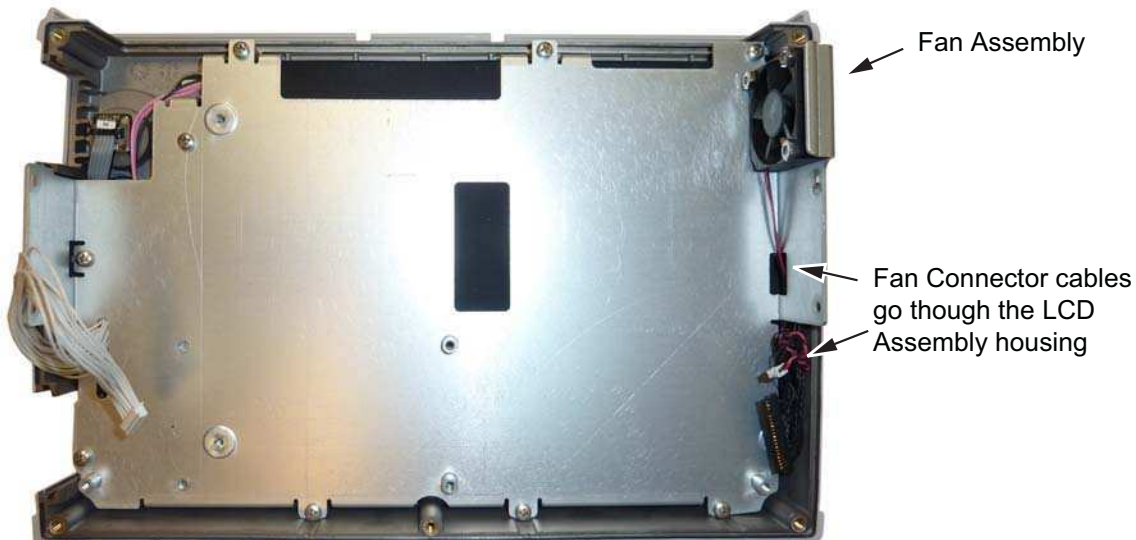

Figure 7-7. Front Panel Keypad Bezel
3. Remove the 3 screws and nuts holding the Fan Assembly to the LCD Assembly housing. Refer to \(Figure 7-7\).